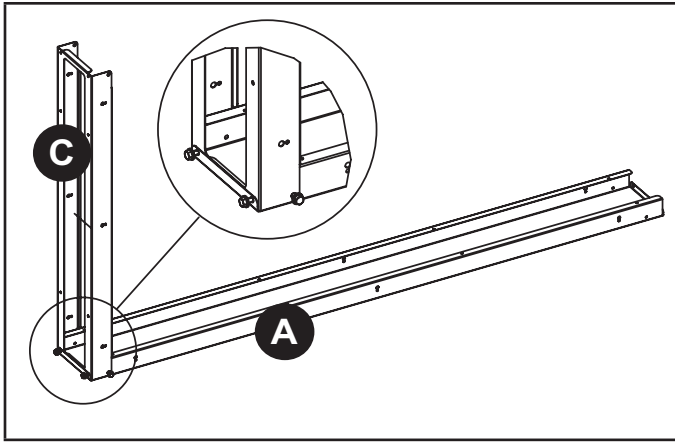

FIGURE 2. Assemble Front Panel (C) to Bottom Panel (A)
The cabinet sections are designed to be attached together. Align the edges as shown in figure 2.
- 1 - Place one Top / Bottom Panel A on a firm surface. Align front panel C into one end of side panel A (see figure 2). Attach Panel C to Panel A as shown in figure 2 using provided screws.